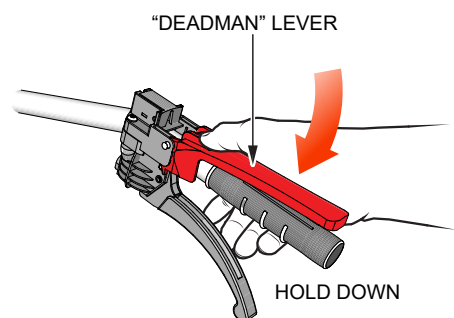

Figure 10. Deadman Lever
5. With the electric motor running, fully squeeze the **RED** deadman lever (Figure 10) and hold down. When the lever is held down, a signal is sent to the motor controller to release the brake.